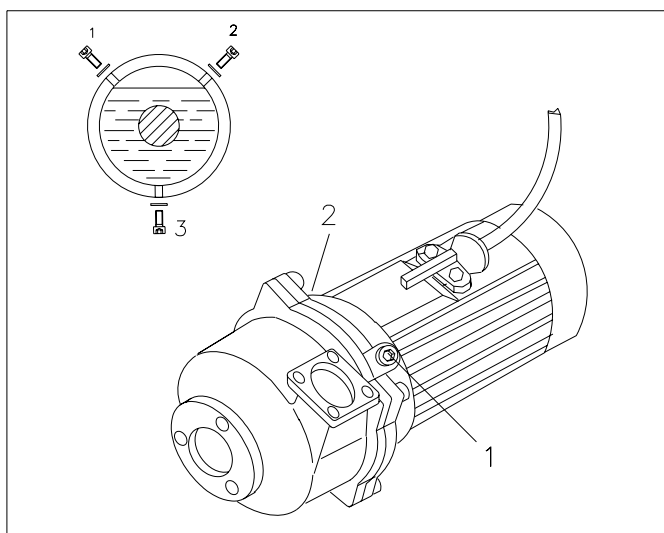

Fig. 7.5
Put the pump in a horizontal position so that 2 hexagonal socket screws are on top and one at the bottom (see fig.7.5). Unscrew the level plug (1) and the vent plug (2).